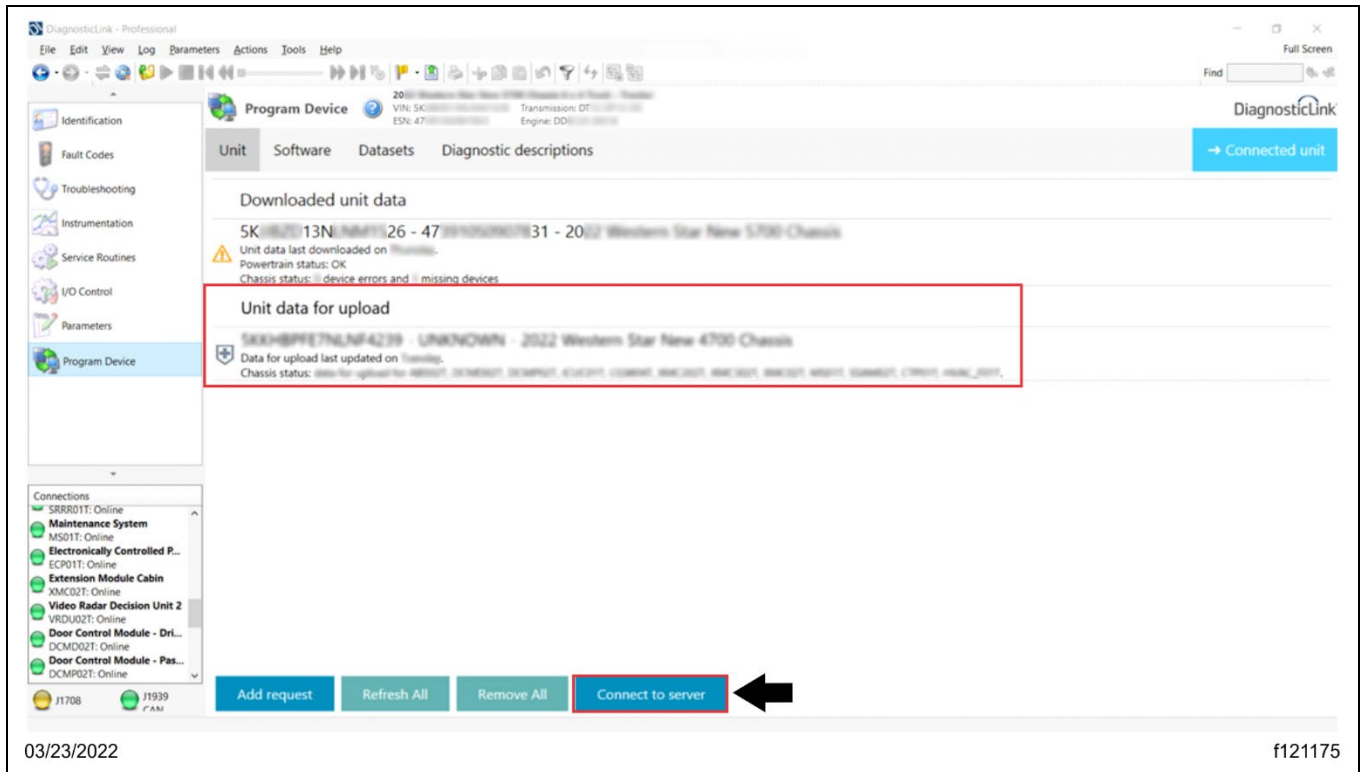

Fig. 10, Uploading the New Parameters
25. The information corresponding to the VIN should appear under 'Unit data for upload.' Select 'Connect to server' to upload the new parameters. See Fig. 10.